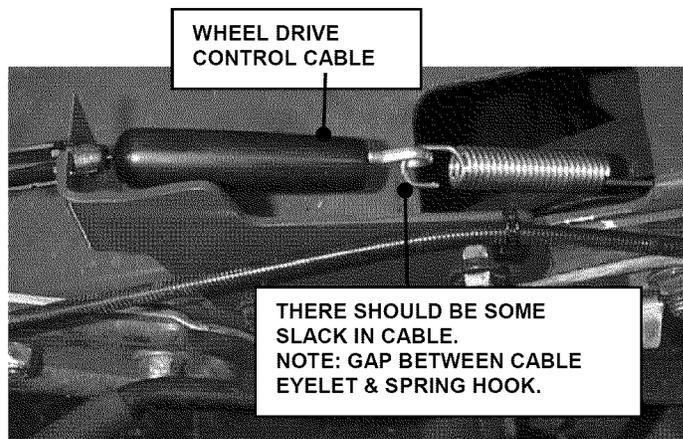

FIGURE 4.4
2. Engage wheel drive control. The length of the spring located at the end of the drive control cable should increase between  $\frac{1}{2}$ " and  $\frac{3}{4}$ ". See Figure 4.4. If the spring does not increase between  $\frac{1}{2}$ " and  $\frac{3}{4}$ ", adjustment is required.